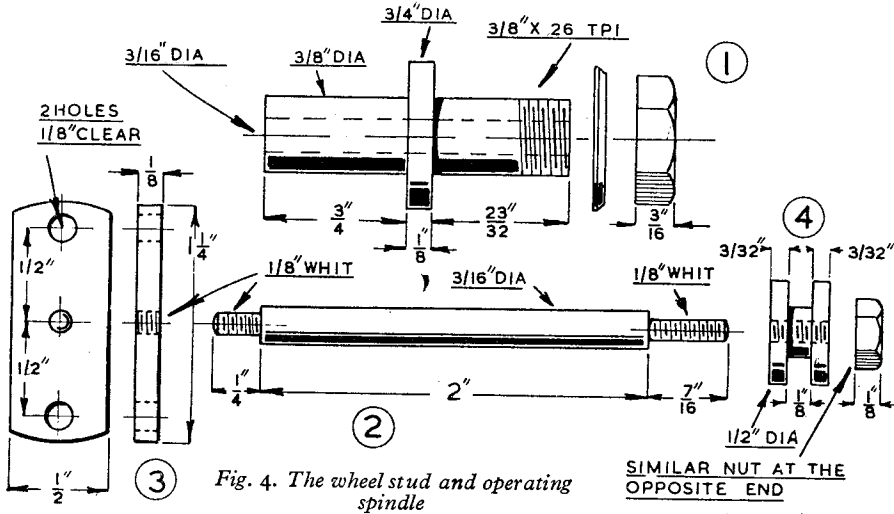

Fig. 4. The wheel stud and operating spindle
A start may be made by mounting the pair of sliding change-wheels on the quadrant, that is to say the 70-tooth and the 20-tooth wheels which are carried on a common bush and keyed together. For this purpose, a new hollow stud is required as illustrated in Fig. 4 (1).